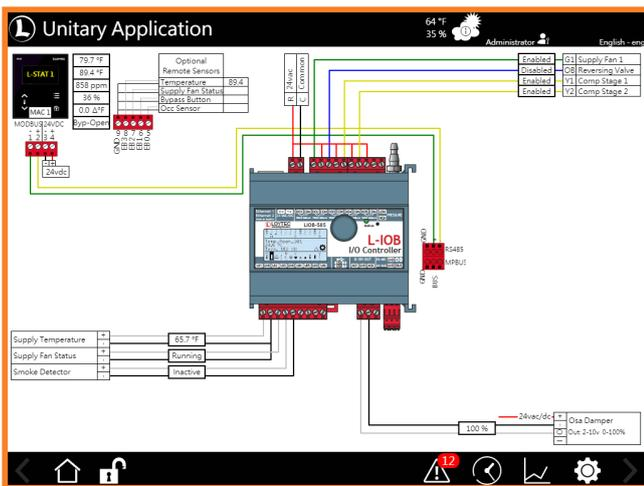

Figure 8: Wiring Diagram
- Creation of a wiring diagram based on unit configuration (Fig. 8)
The wiring diagram (Fig.8) for the unit configuration is displayed with the most recent device values. Since the wiring diagram is part of the graphical project, it never gets lost or removed from a control cabinet. The active wiring diagram with values can be part of the commissioning agent documentation for each device.